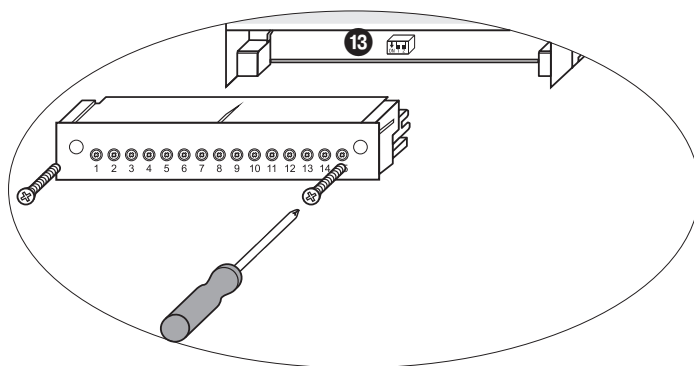

Fig. 9
- **Lower terminal strip:** Unscrew left and right fixing screws and remove the terminal strip. **Fig. 9**